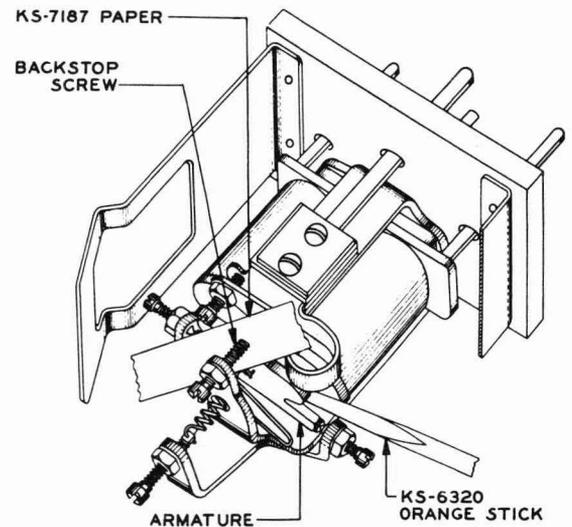

Fig. 51 – Method of Cleaning Backstops on 207-, 213-, and 268-type Relays
7.10 To clean the backstop, insert a piece of KS-7187 paper between the armature and backstop screw, and while holding the armature against the backstop screw, withdraw the paper (see Fig. 51). Repeat this operation until the paper shows no evidence of dirt when it is withdrawn.